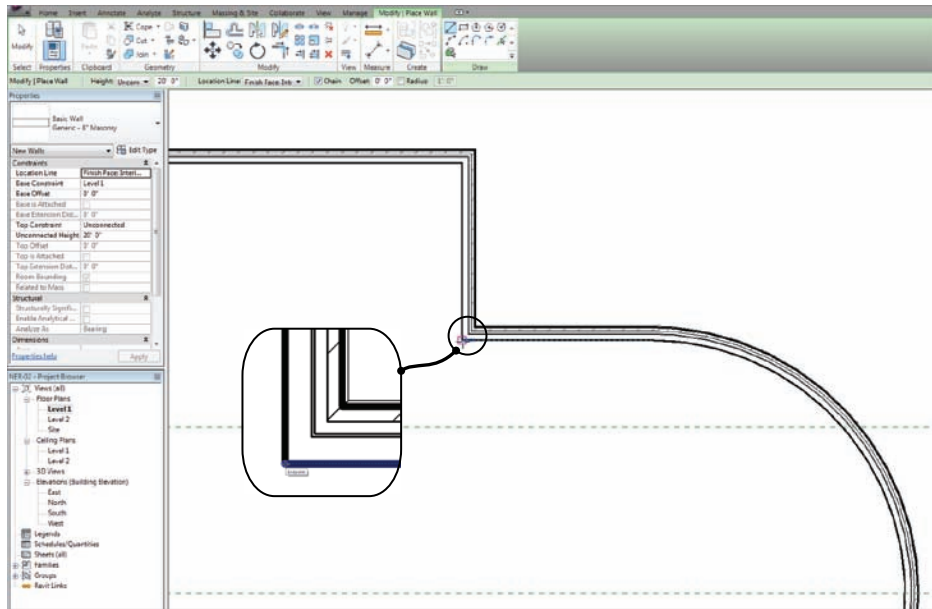

FIGURE 2.21 Start drawing the 8" (200mm) CMU elevator shaft in the corner indicated here. Turn on Thin Lines if you need to.
1. Open or make sure you're in Floor Plan level 1. Zoom into the north-east corner of the building, as shown in Figure 2.21.
3. In the Type Selector, select Generic - 8" Masonry (Generic - 200mm), as shown in Figure 2.21.
4. For the starting point, pick the corner as shown in Figure 2.21. The wall will probably be in the wrong orientation, so if necessary, tap the spacebar to flip the wall's orientation.